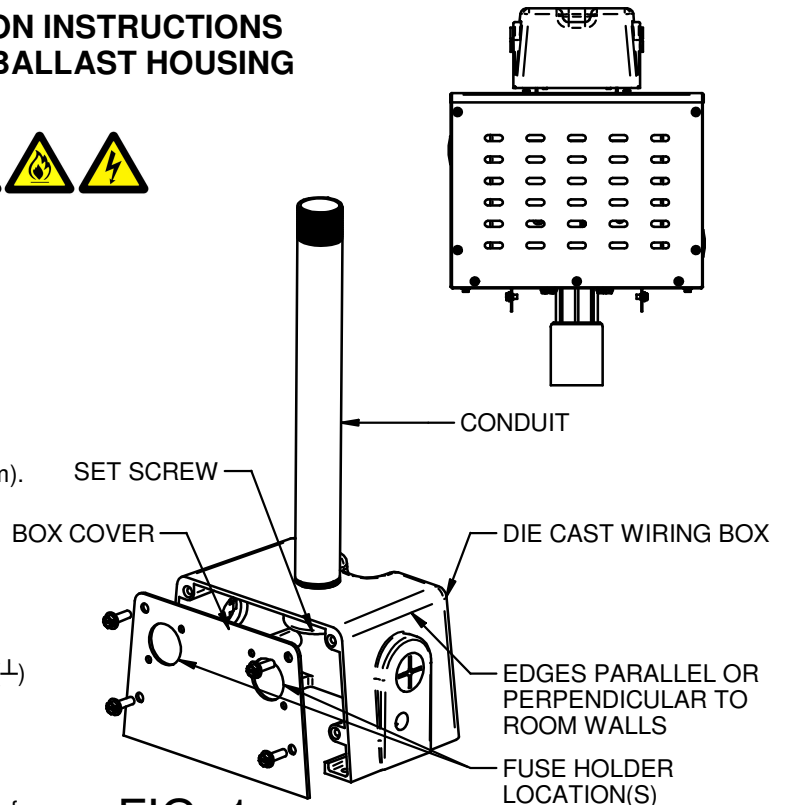

FIG. 1
CAST WIRING BOX – PENDANT MOUNTING (FIG. 1):
5. Thread the (4) cover mounting screws through the cover into the wiring box. Tighten all screws. (See Fig. 1).
6. For special fused fixture applications, place the cover with fuse holders attached over the opening, after wiring the fuse holders into the circuit. "Line" leads attach to supply wires and "load" leads attach to fixture wires. Install fuses of recommended current rating into the fuse holders. (See Fig. 1).